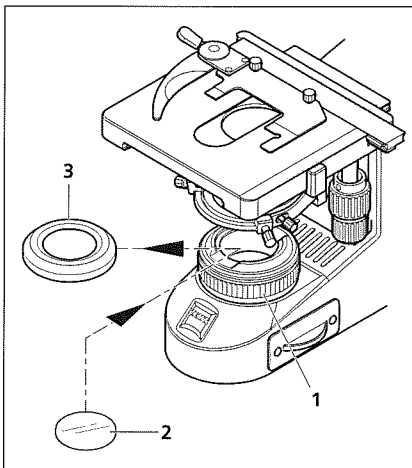

Fig. 12 Inserting a color filter
- Unscrew the cover cap (Fig. 12/3) from the luminous-field diaphragm (Fig. 12/1).
- Put the desired filter – yellow, green or blue – (Fig. 12/2) onto the mounting surface of the luminous-field diaphragm and screw the cover cap back into place.